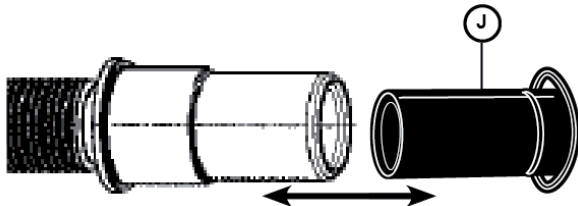

Figure 15
2. Obtain the Rubber Drain Hose Adaptor (J) spring clamp from the Dishwasher Installation Kit (**do not substitute**).
3. Insert the dishwasher drain hose into the end of the drain hose (see **Figure 15**). Be sure to fully insert the drain hose.